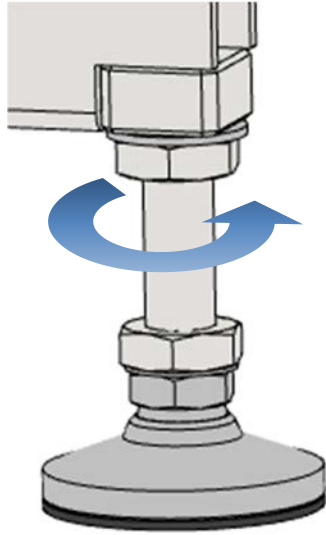

Figure 7-3: Lock feet w/ Jam nut.
3. Lock feet in place by tightening jam nuts against frame with wrench (as in Figure 7-3).